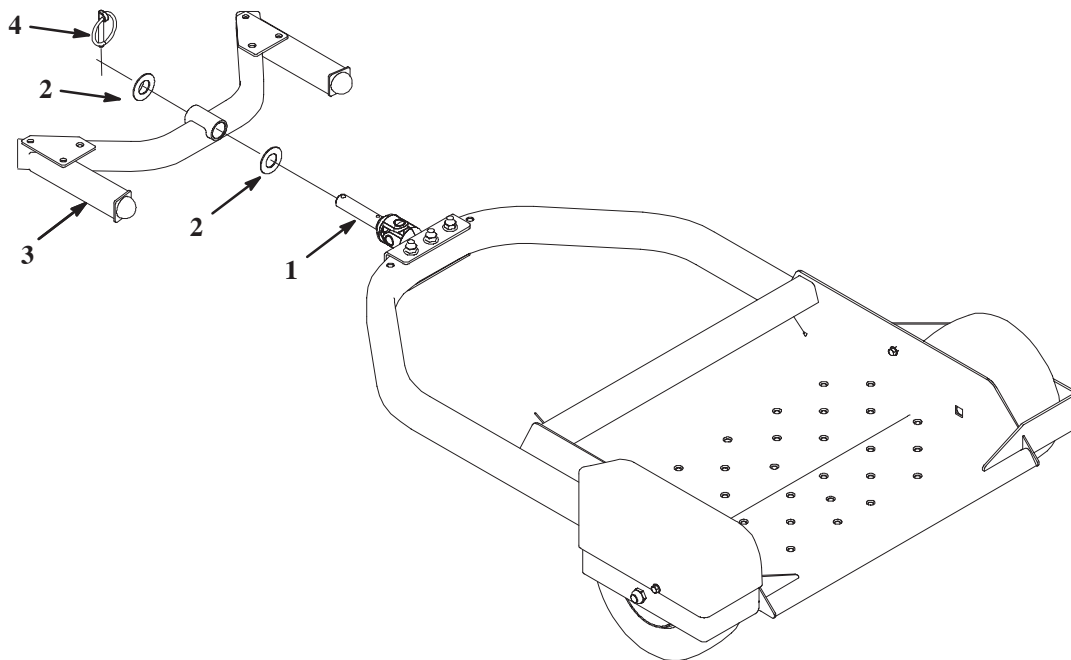

Figure 5
2. Insert a .813 x 1.563 washer onto the pivot shaft (Fig. 5).
3. Insert the pivot shaft into the sulky hitch and secure with a .813 x 1.563 washer and a lynch pin (Fig. 5).